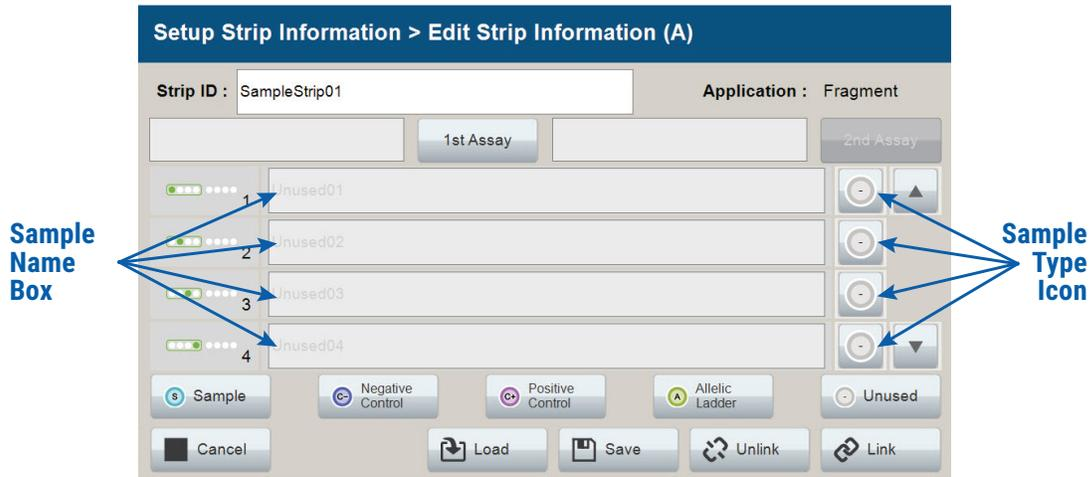
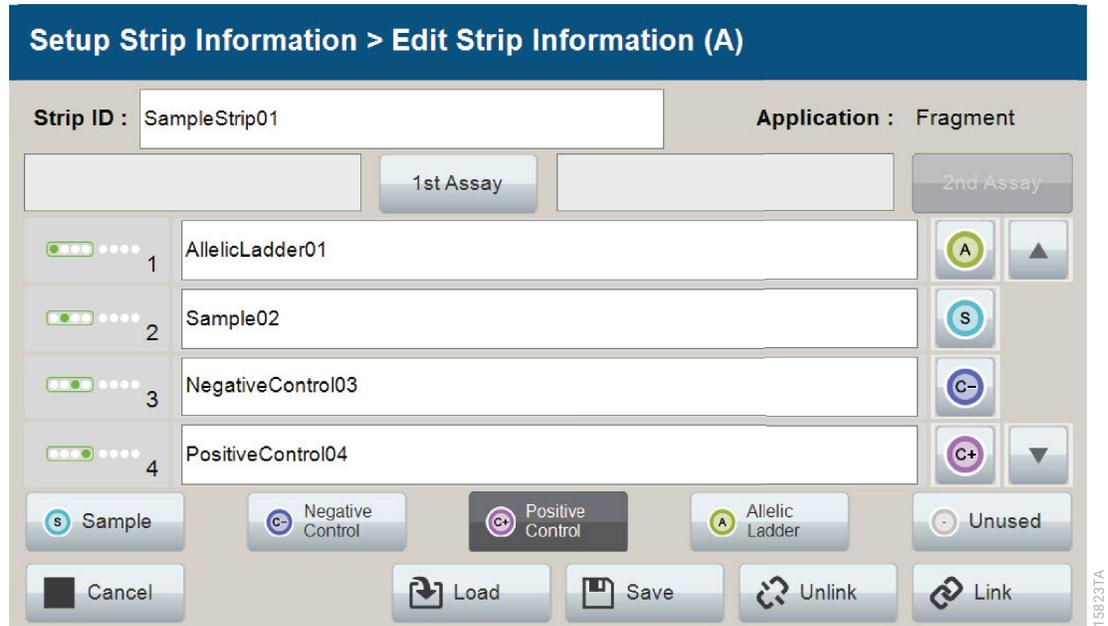
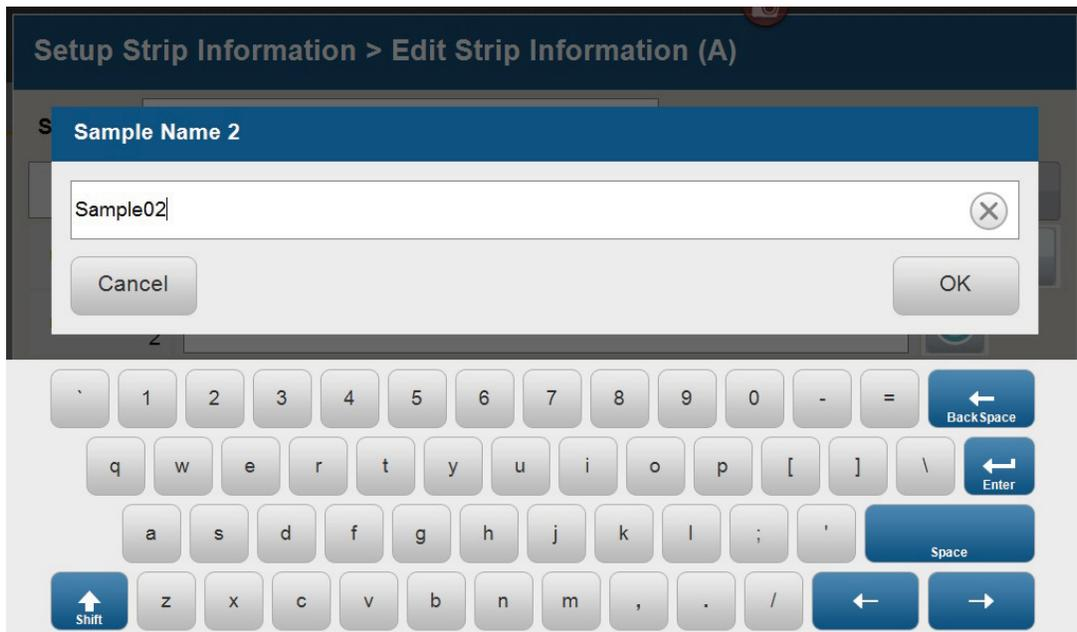
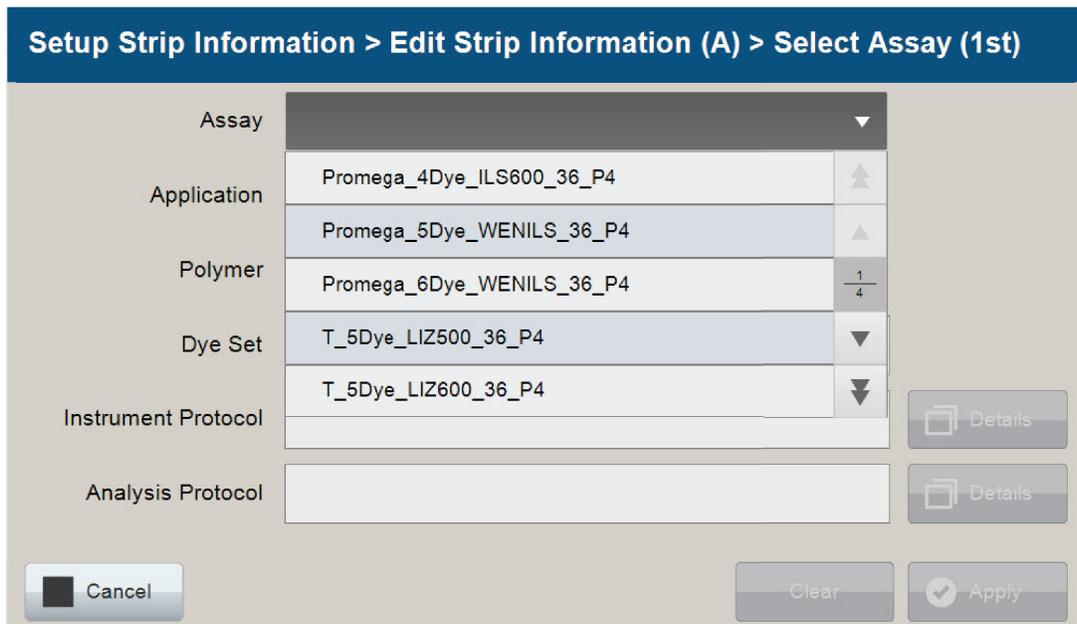

Figure 13. Sample Type and Sample Name on 'Edit Strip Information' screen.
Figure 14. Sample Name Entry on 'Edit Strip Information' screen.
Figure 15. 'Set Sample Name' window.
Figure 16. 'Select Assay' window.
- Select a sample type on the 'Edit Strip Information' screen (Figure 13). Sample types must be selected for each well position before the Sample Name box becomes active for entry of sample name. Sample types are as follows.
- To assign a sample type to a well, select the appropriate sample type along the bottom of the 'Edit Strip Information' screen (Figure 13), and then select the **Sample Type** icon to the right of the sample name field for the desired well. This icon will then display the sample type selected for that well (Figure 14).
6. Enter a sample name for each well position by selecting the Sample Name box adjacent to the well number on the 'Edit Strip Information' screen (Figure 14). This opens the 'Set Sample Name' window and a keypad will become active on the touch screen (Figure 15). Alternatively, the Sample Name can be entered using a traditional keyboard if one is connected to the Spectrum Compact CE System. Enter the appropriate sample name, and then select **OK** to exit and return to the 'Edit Strip Information' screen.
- The Spectrum Compact Control Software includes preloaded run assays for use with chemistries available from Promega. Refer to the *Spectrum Compact CE System Operating Manual #TMD058* for information on creating or modifying assays. To assign a run assay to an injection set, select **1st Assay** on the right side of the 1st Assay field (Figure 14). This opens the 'Select Assay' window (Figure 16). Select **Promega_4Dye_ILS600_36_P4** from the drop-down list (Figure 16) and then select **Apply**.